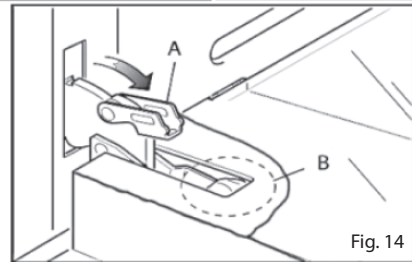
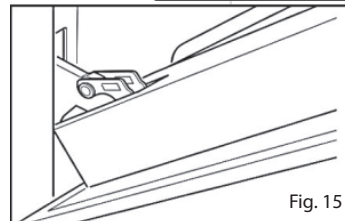

Fig. 14
Fig. 15
- Completely open the A arm on the left and right hinges (Figure 14).
- Close the door slowly (Figure 15) until the left and right hinge arms A lock on the B part of the door (Figure 14).